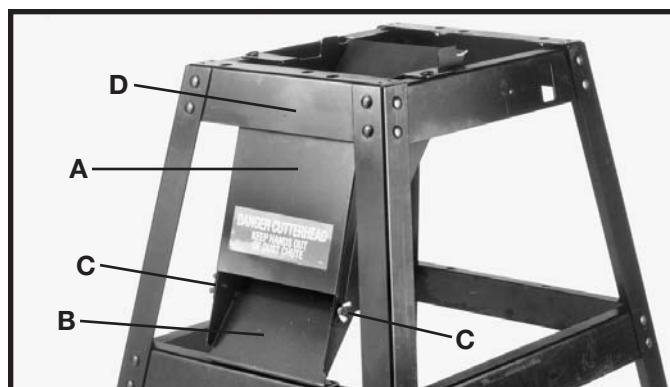

Fig. 14
1. Assemble dust chute cover (A) Fig. 14, to dust chute (B) using two wing screws (C). **IMPORTANT:** Top of dust chute cover (A) must be inside top brace (D) of stand.
**⚠ WARNING** DURING OPERATION, THE DUST CHUTE COVER (A) MUST ALWAYS BE ASSEMBLED AS SHOWN AND SHOULD ONLY BE REMOVED FOR CLEANING.
1. Remove two wing screws (C) Fig. 14, from dust chute cover (A).